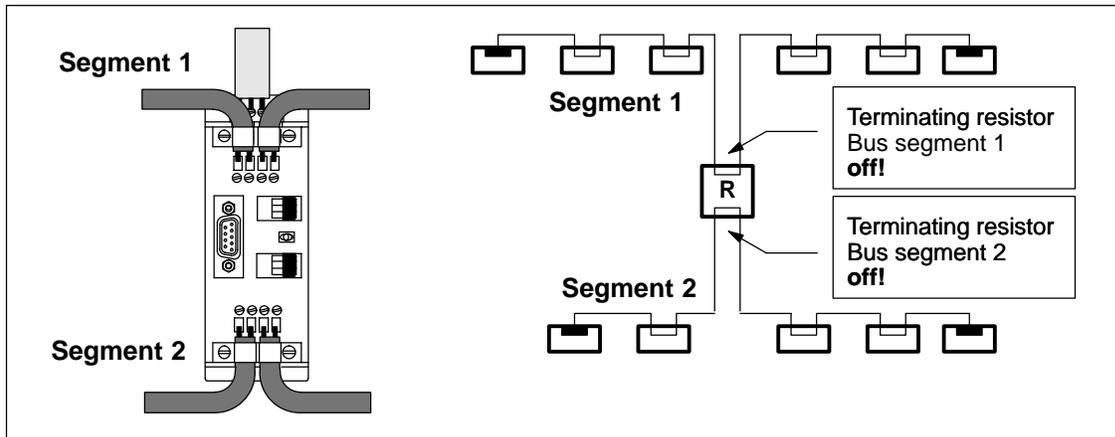

Figure 5-5 Connecting Two Bus Segments to the RS-485 Repeater
- Segment 1 and Segment 2 connected through on the RS-485 repeater (see Figure 5-5)
Figure 5-5 shows the connection between two segments via an RS-485 repeater with each LAN cable connected through: